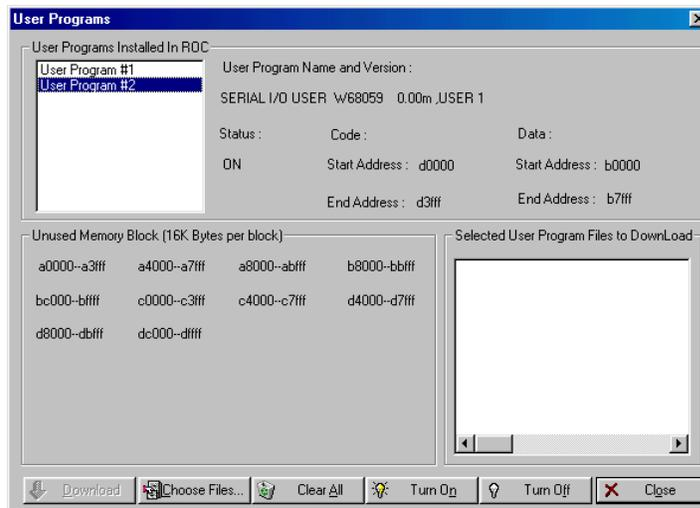

Figure 3. ROCLINK User Program Installation
6. Click the **Download** pushbutton to begin loading the selected programs. See figure 3.